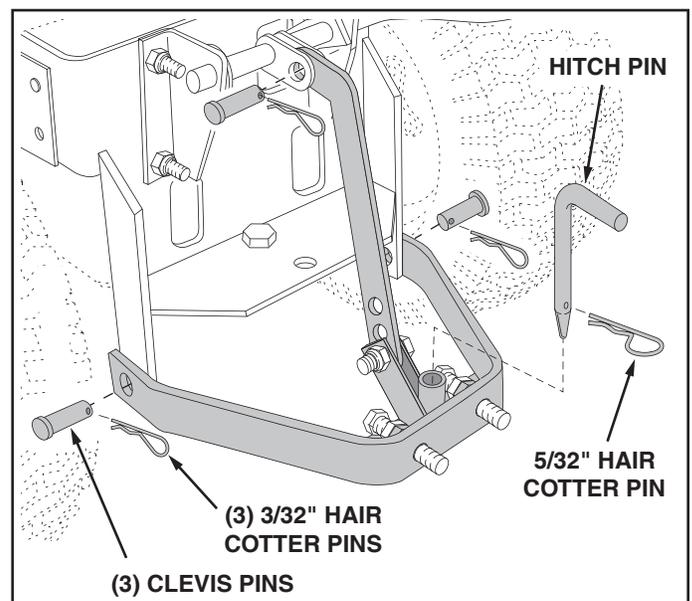

FIGURE 6
- Attach the Sleeve Hitch Lift Assembly to the Sleeve Hitch Frame Assembly using three  $\frac{5}{8}$ " x 1-3/4" clevis pins and  $\frac{3}{32}$ " hair cotter pins as shown in figure 6.
- Install the hitch pin in the sleeve hitch and secure it with the  $\frac{5}{32}$ " hair cotter pin. See figure 6.